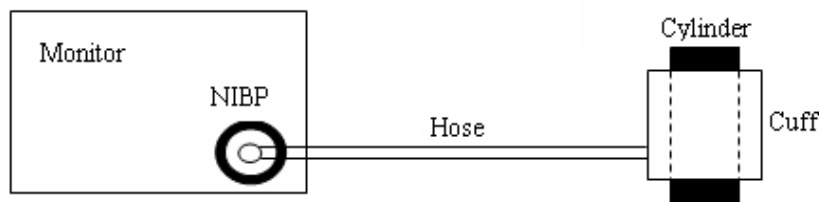

Figure 6.32 NIBP Leakage Test Diagram
- 2 Wrap the cuff onto a column of proper size, as referred to Figure 6.32